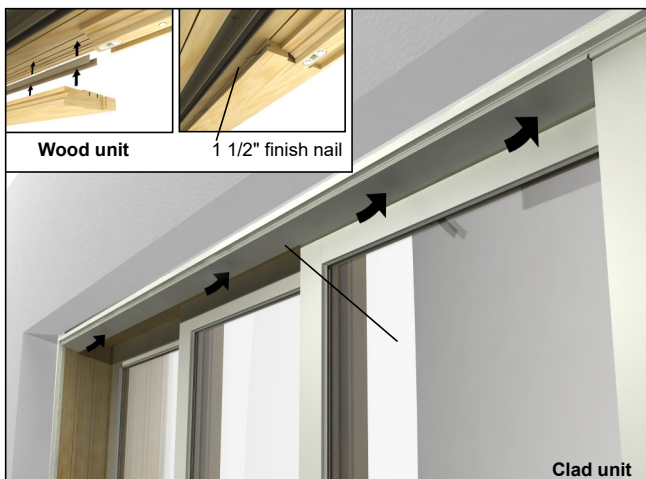

Figure 50
11. Install head jamb exterior stops by pressing or tapping them into place with a rubber mallet. Secure clad stops into place with #8x3/4" truss head screws in pre drilled holes. Install the wood stops with connecting barbs and 1 1/2" finishing nails through groove in part stop. See figure 50.